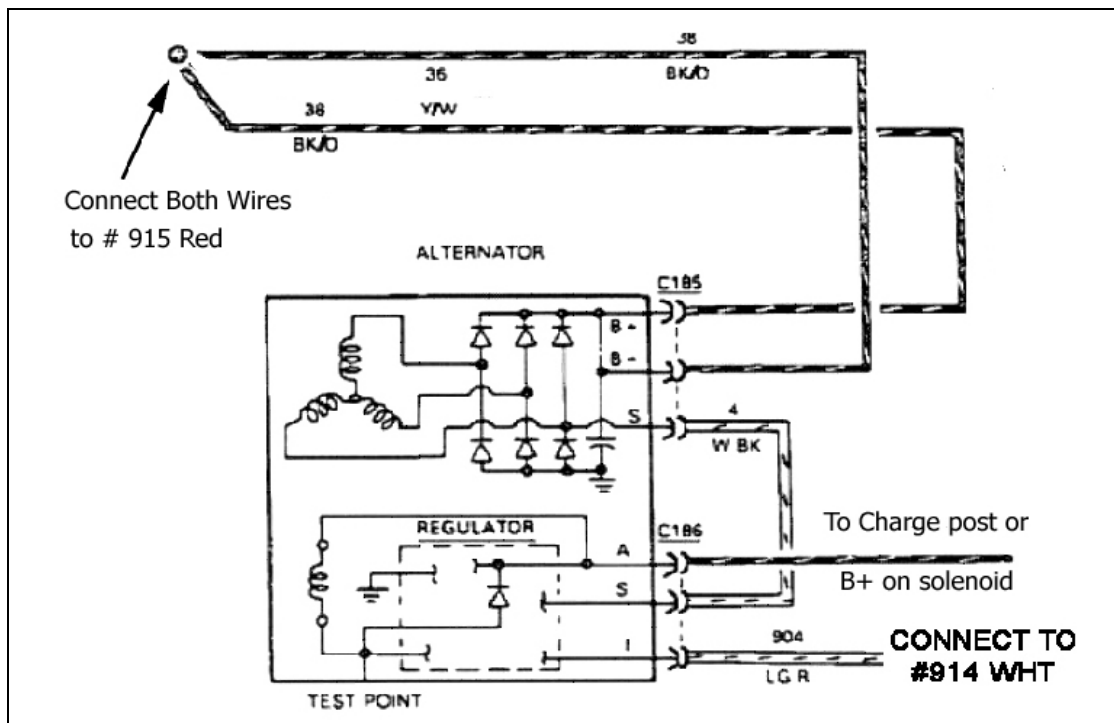

Figure 8-1C Ford 2G Alternator
- 8.1.6 Connect ENGINE SECTION wire #915 RED to both wires as noted in Figure 8-1C.
- 8.1.7 Connect ENGINE SECTION wire #914 WHT to the Light Green/Red stripe wire as noted in Figure 8-1C.